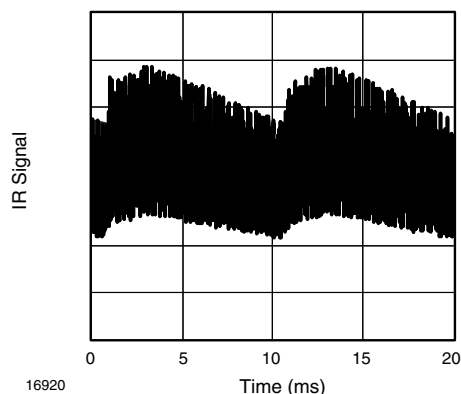

Fig. 14 - IR Disturbance from Fluorescent Lamp with Low Modulation
- Strongly or weakly modulated pattern from fluorescent lamps with electronic ballasts (see Fig. 14 or Fig. 15)